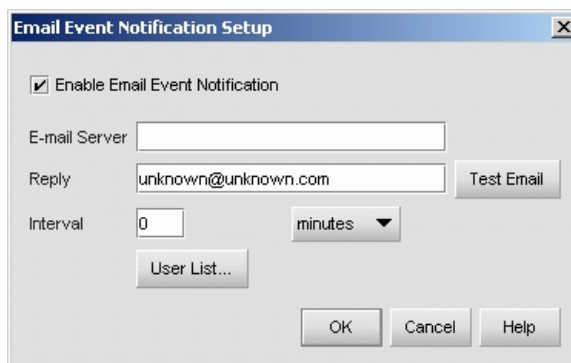

Figure 2-101 Email Event Notification Setup Dialog Box
2. At the SANavigator or EFCM main window, select the *Event Notification* and *Email* options from the *Monitor* menu. The *Email Event Notification Setup* dialog box displays (Figure 2-101).